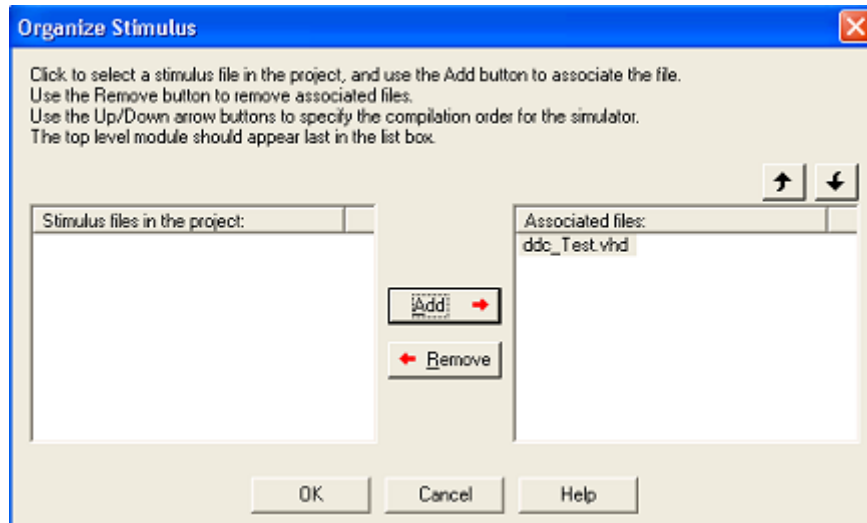

Figure 2-12. Organize Stimulus Dialog Box
3. Add the stimulus file under **Associate Files**, as shown in the Organize Stimulus dialog box in Figure 2-12.